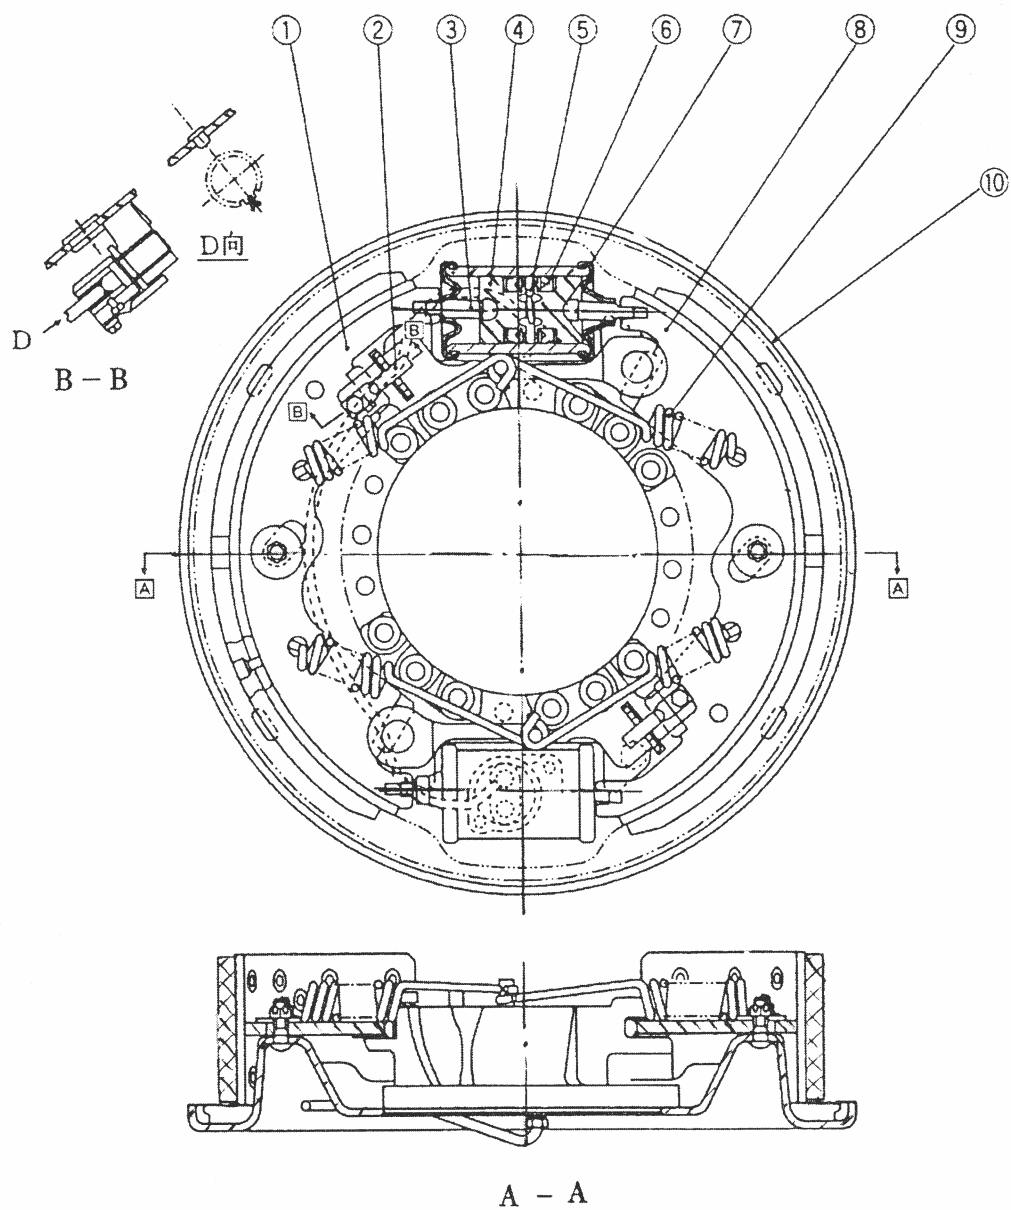

Fig. 5-5 Brake (12t)
5.4.1 Travel brake (12t forklift truck) (See Fig. 5-5)